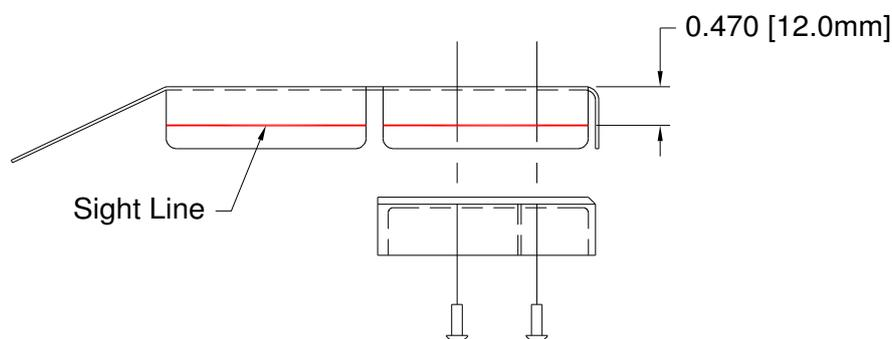

Figure 4
4.3. Mark the lower and rear flanges of the new Rib 1 Section (GA8-950075-23) using a dark coloured fine line marker. Draw a line along the lower and rear flange 0.470 inch (12.0mm) from the outer face of each rib section. See Figure 4. (Note: The accuracy of this line is important as it sets the position of the Channel Mount bolts in relation to the Stiffener Bracket web Ref step 7.2)